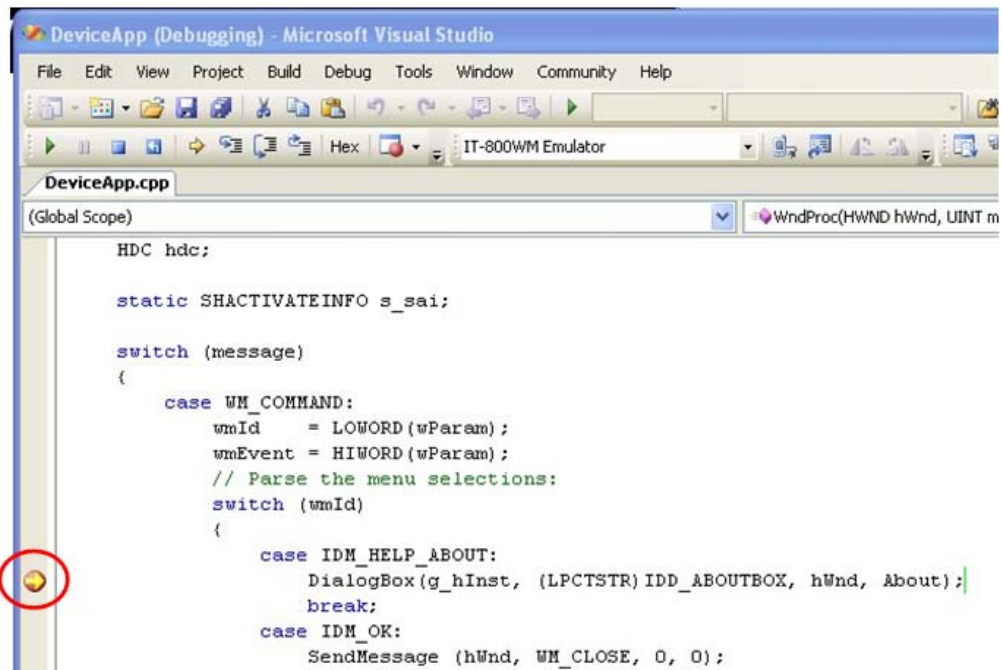

Figure 7.19
2. Similar to ordinary debugging operations with an actual IT-800, the **Device Emulator** allows break point setting (circled in red in Figure 7.19) in the source code and step-by-step debugging.